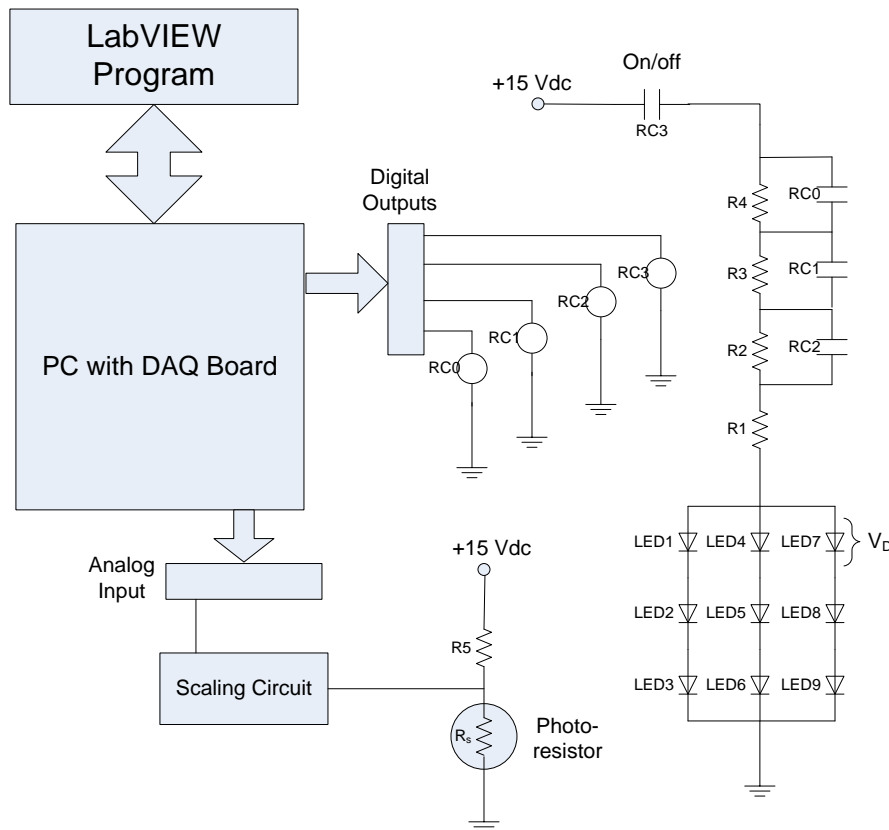

Figure 10. Lab 4 Project Overview Showing Major Sub-Systems.
The purpose of this lab is to develop a LED light array controller using a Cadmium-Sulfide photo-resistor as a sensor and four, TTL-compatible SPST relays to control the array's input current. This requires determination of the sensor input/output characteristic, sensor output voltage scaling, definition of analog and digital I/O using the NI-MAX, and LabVIEW program development. Figure 10 shows an overview of this experiment. A series of resistors controls
- 3.) Select a value of R_5 and use Excel to compute the sensor voltage divider output with 15 Vdc input as shown in Figure 10. Plot the results of these calculations. Adjust the value of R_5 until the divider's output range is within the analog input ranges of the DAQ boards installed in the lab and the plot is as linear as possible.
- 10.) Connect the light sensor voltage divider to the scaling circuit as shown in Figure 10 and then to the previously defined analog input channel. Use the connection information available in NI-MAX to identify the correct terminals. Make sure the photo-resistor “sees” room light levels.